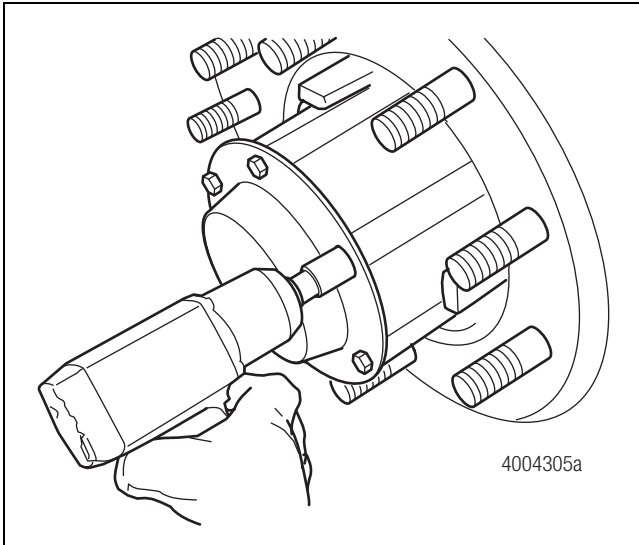

Figure 4.24
5. Remove the hubcap and hubcap gasket. Figure 4.24.